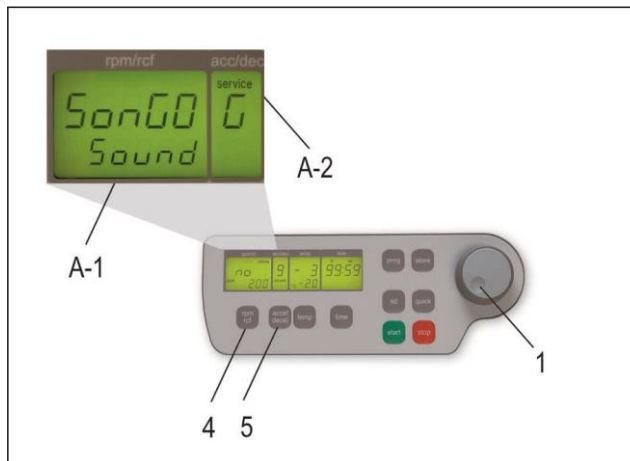

Figure 9
Proceed as illustrated under point 1.8.1 to enter this program mode, press the key "accel/decel" (5). In the display "accel/decel" (A-2) flashes the word "service". Select the letter "G" with the adjustable knob (1). As a result appearing in the display "rpm/rcf" (A-1) the word " SonGo/Sound". After pressing the key „rpm/rcf“ (4) select a song with the adjusting knob (1), (see Figure 9).